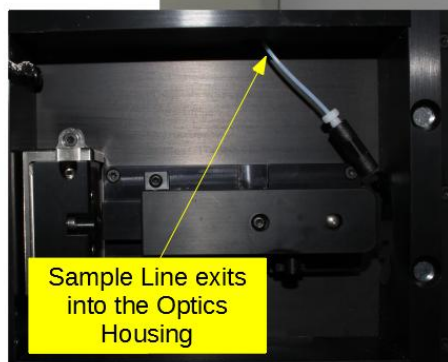

**Figure 1:** Orientation of *Cable Tie* through the loop.
- Use a 4 in Cable Tie (619104) to make a small loop as shown in **Figure 1**.